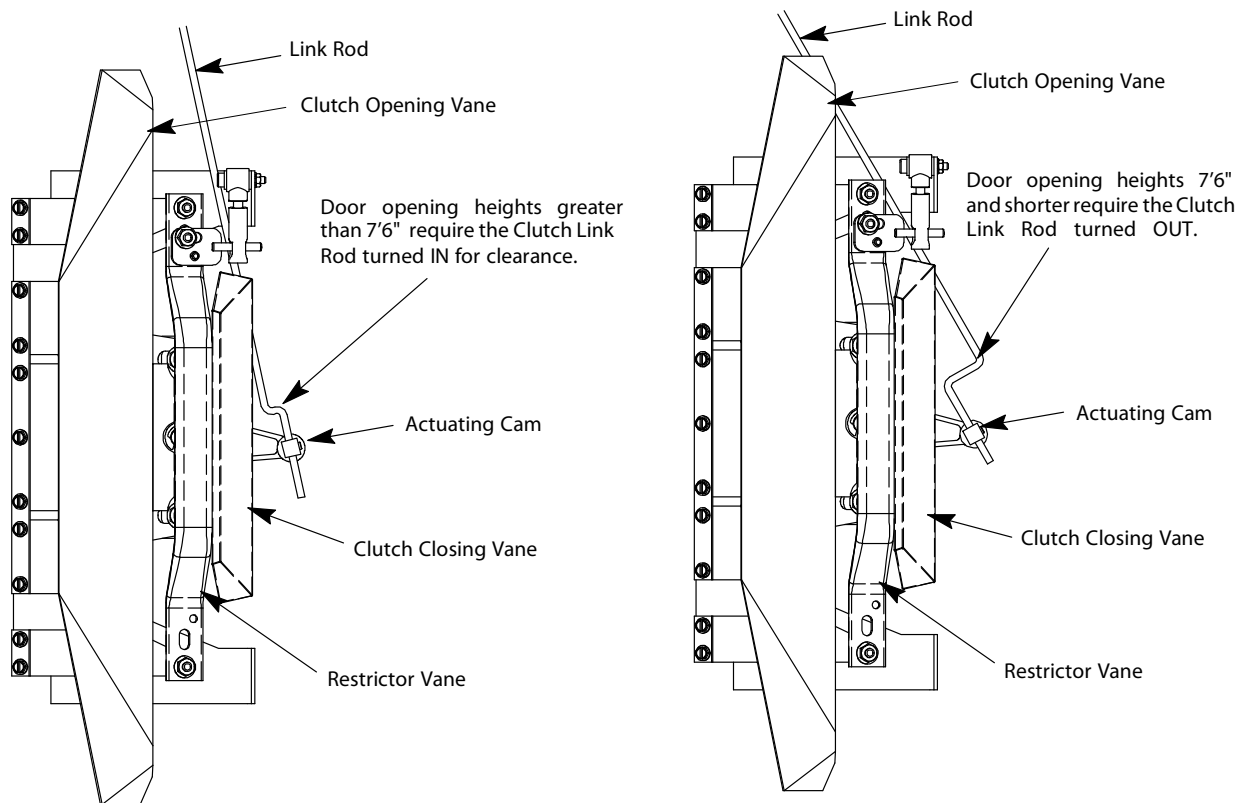

Figure 4 - Clutch Link Rod to Actuating Arm
3. Attach the clutch link rod, with the formed end of the rod at the clutch, to the actuating arm. See Figure 4.